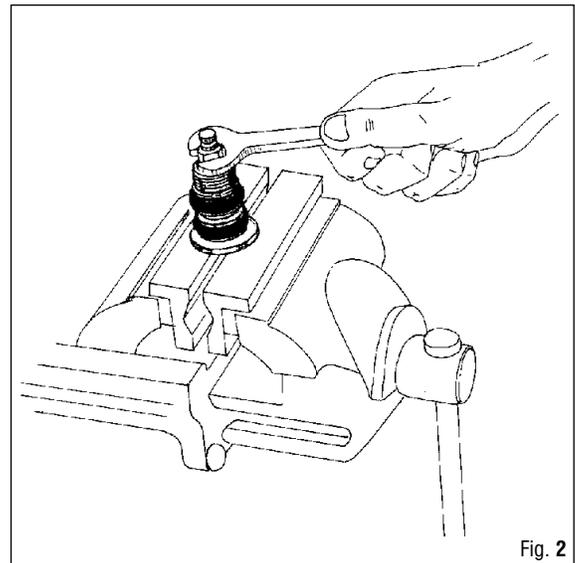

Fig. 2
11. Using a 6-mm open end wrench, remove the deflation button bushing (4) (Fig. 2).
12. Extract the piston (8) and remove the O-Rings (7) and (3).